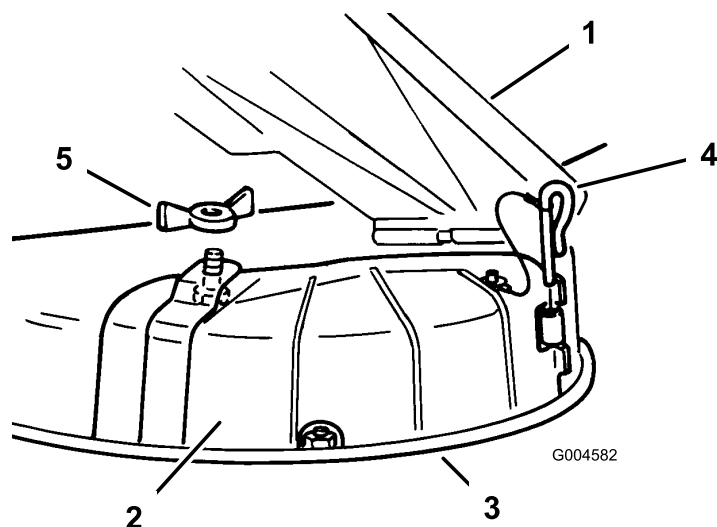

Figure 24
3. Remove the wing nut and bolt securing the cover in place (Figure 24). Retain all parts for future use.
4. Remove the hinge pin securing the cover to the deck (Figure 24).